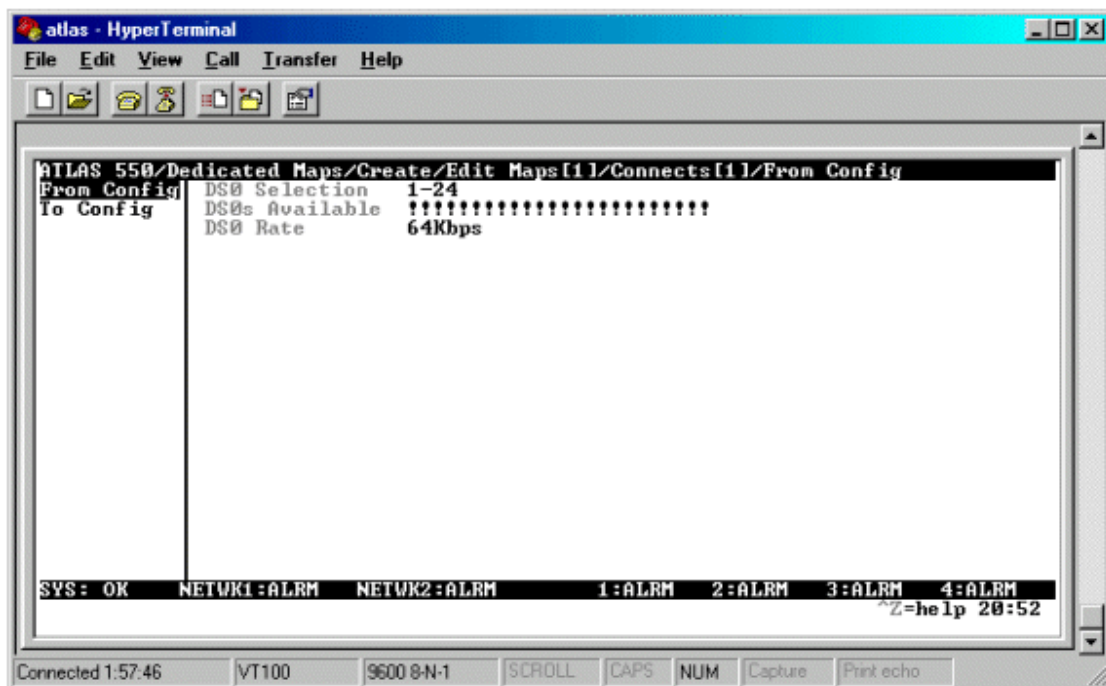

Figure 16
7. Press <enter> on the **From Config** option and the menu in **Figure 16** will be displayed.